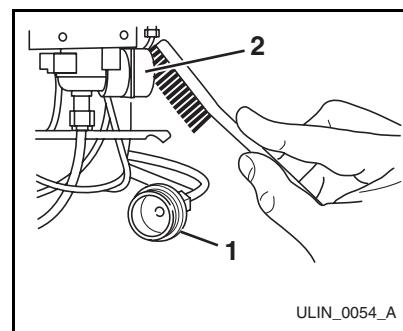

Figure 10
4. Disconnect the hose connector (Figure 10, 1) from the water solenoid valve (Figure 10, 2).
6. Re-connect the water supply hose connector (Figure 10, 1) to the water solenoid valve (Figure 10, 2). Tighten the connector securely.